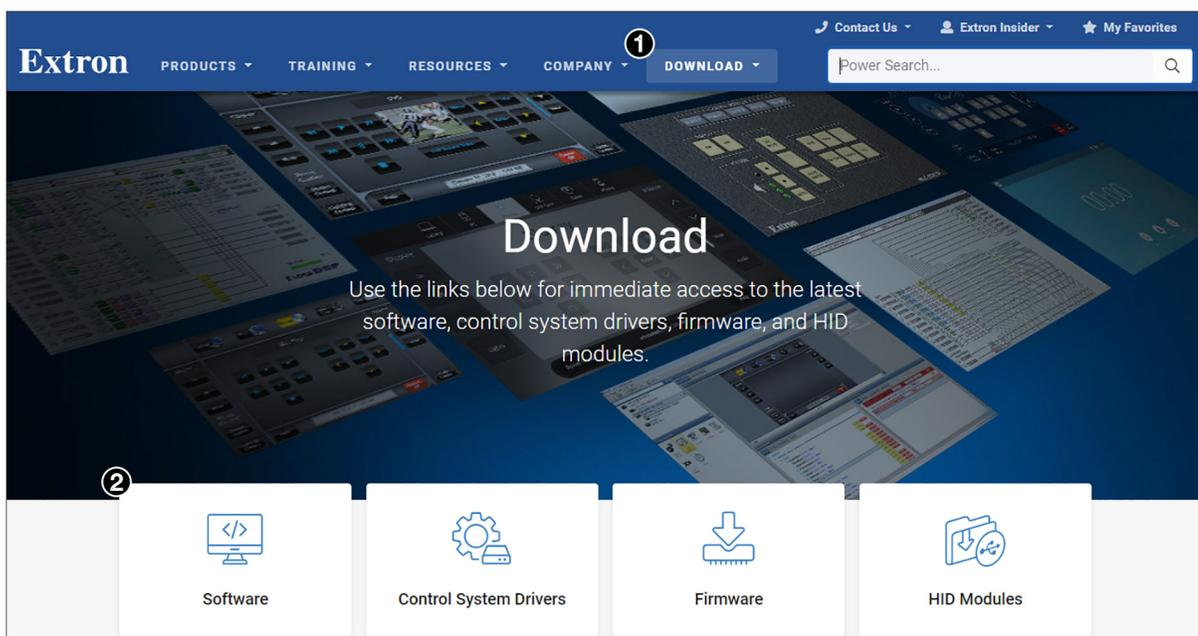

Figure 17. Download Tab and Software Button on the Download Screen
1. On the Extron website, select the **Download** tab (see figure 17, **1**), then click the **Software** button (**2**). Alternatively, hover the mouse pointer over the **Download** tab, then move the pointer to the **Software** link in the **Downloads** column and click it.